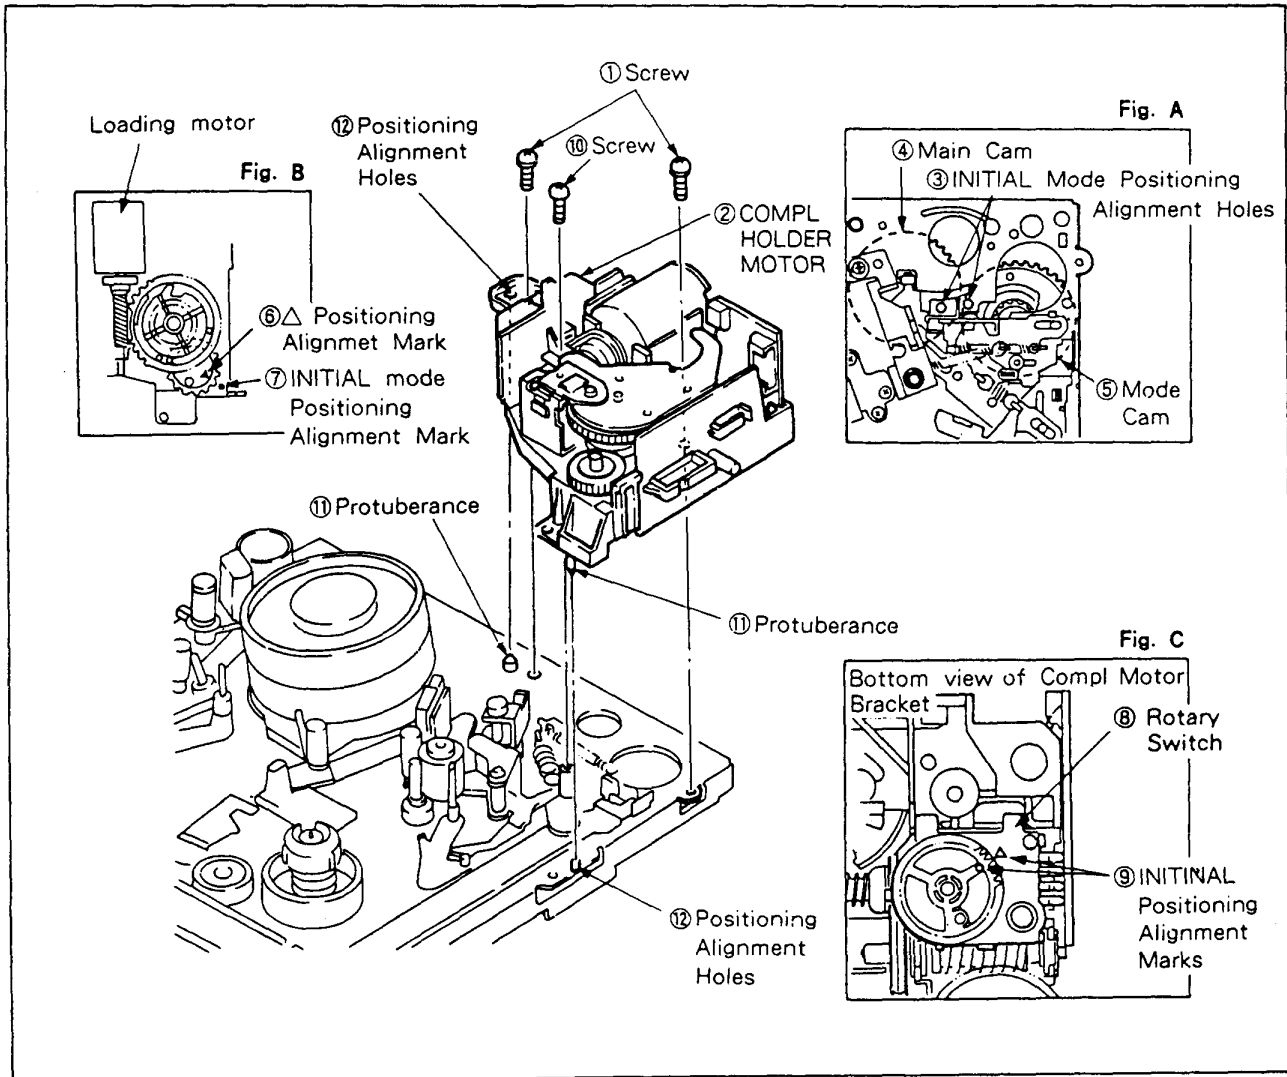

Fig. 5-3-1 Compl Holder Motor
- 3) Remove the two screws ① and the other one ⑩, then remove the COMPL HOLDER MOTOR ② (see Fig. 5-3-1.).